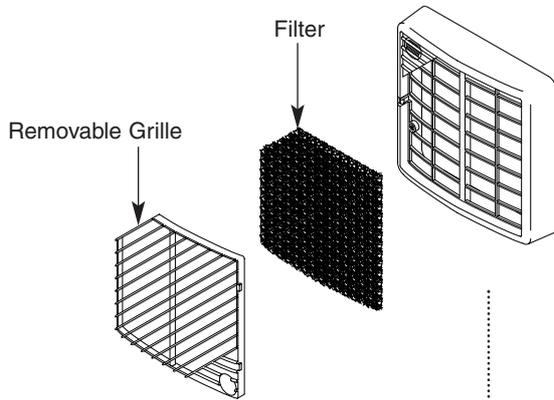

Fig. 44
2. Unclip the removable grille from the unit and remove filter (Fig. 44).